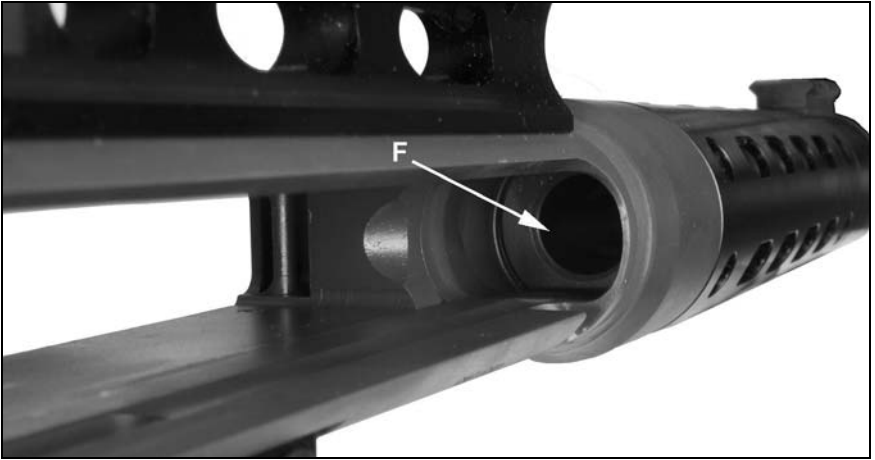

Figure 25
4. Look into the receiver through the ejection port and verify that there is no cartridge in the chamber (F). See figure 25.